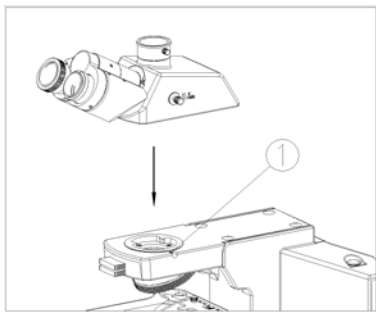

Fig.7
(1) Loosen the head lock screw①. (See Fig. 7)
(2) Insert the dovetail on the head into the stand. Insert the left side of the dovetail first, then tighten the lock screw.①.